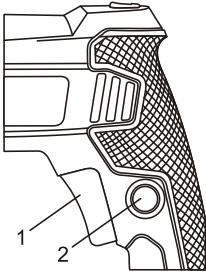

Fig. 4
The metal shear has a variable speed trigger switch (1) (Fig. 4).